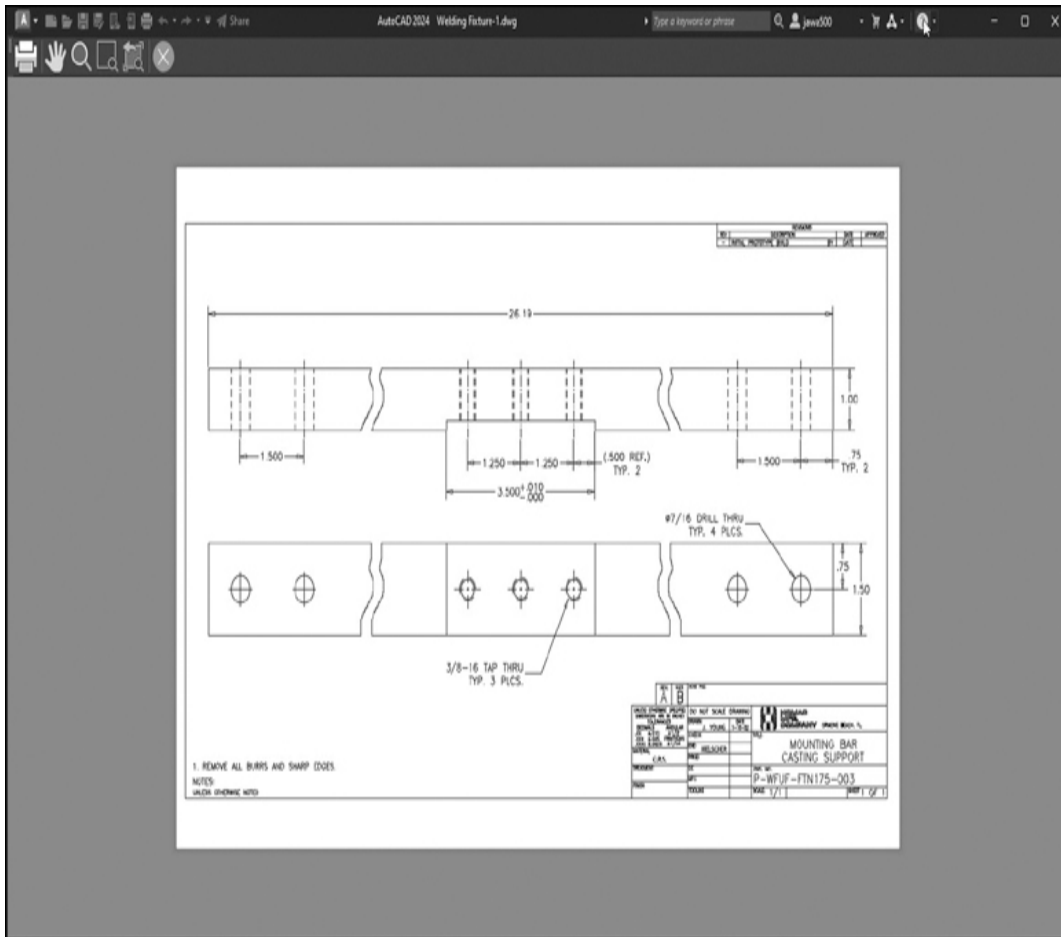

Figure 15-8
- 7 Set the **X** value in the **Plot offset** to **0.00**, and select the **Preview...** button. This displays the plot preview. The plot preview now looks correct, and the drawing is ready to plot (see Figure 15-8).